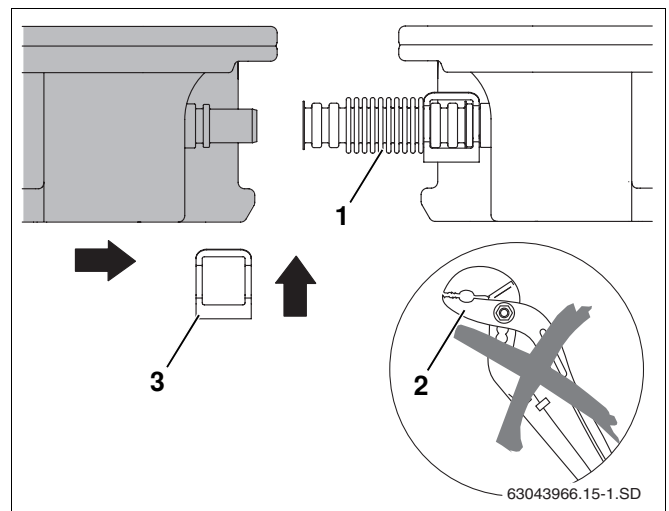

Fig. 49 Pushing second collector towards the first
- Do not use any tools, e.g. pliers (Fig. 49, **Item 2**). These could render the corrugated pipe connector unusable.
- Push the second collector on to the first in such a way that the collector connections are pushed into the preassembled corrugated pipe connectors (Fig. 49, **Item 1**) on the first collector.
- Place second bracket (Fig. 49, **Item 3**) over the corrugated pipe connector and collector connection.